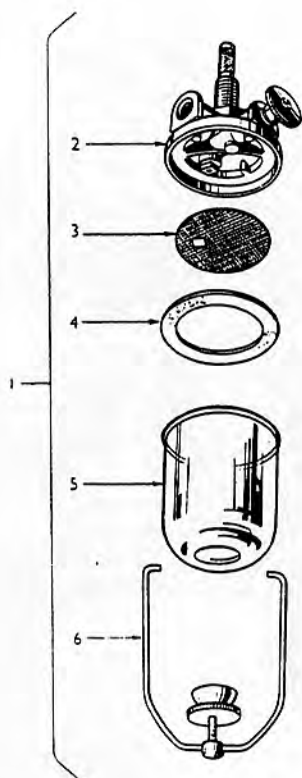
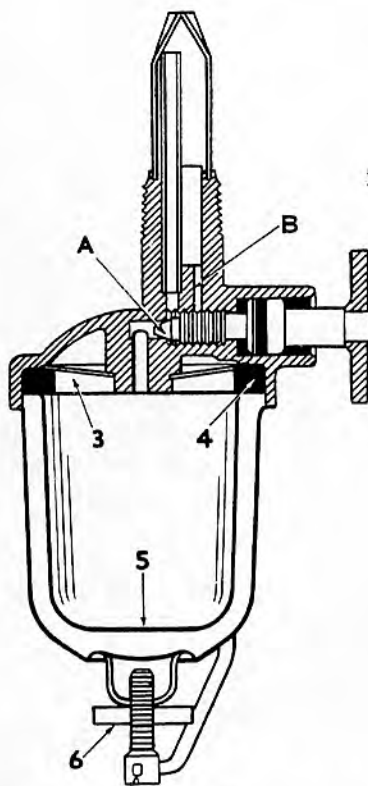

FIG. 1
FIG. 2
The two-way valve and sediment bowl assembly is shown in Fig. 1. It consists of a fuel valve assembly (2) to which is attached a sediment bowl (5) by means of a retainer. Located between the bowl and the filter are a filter gauze (3) and a gasket (4). A cross section through the valve and sediment bowl assembly is shown in Fig. 2.
Function of the Fuel Valve and Sediment Bowl (Fig. 2)